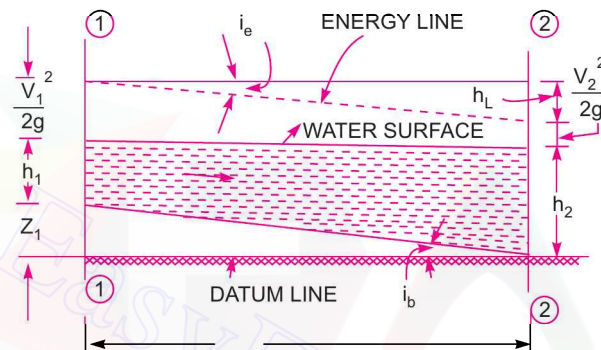

Fig. 16.31 Length of back water curve.
**16.9.3 Expression for the Length of Back Water Curve.** Consider the flow of water through a channel in which depth of water is rising as shown in Fig. 16.31. Let the two sections 1-1 and 2-2 are at such a distance that the distance between them represents the length of back water curve.
$$\text{From Fig. 16.31, } Z_1 = i_b \times L$$